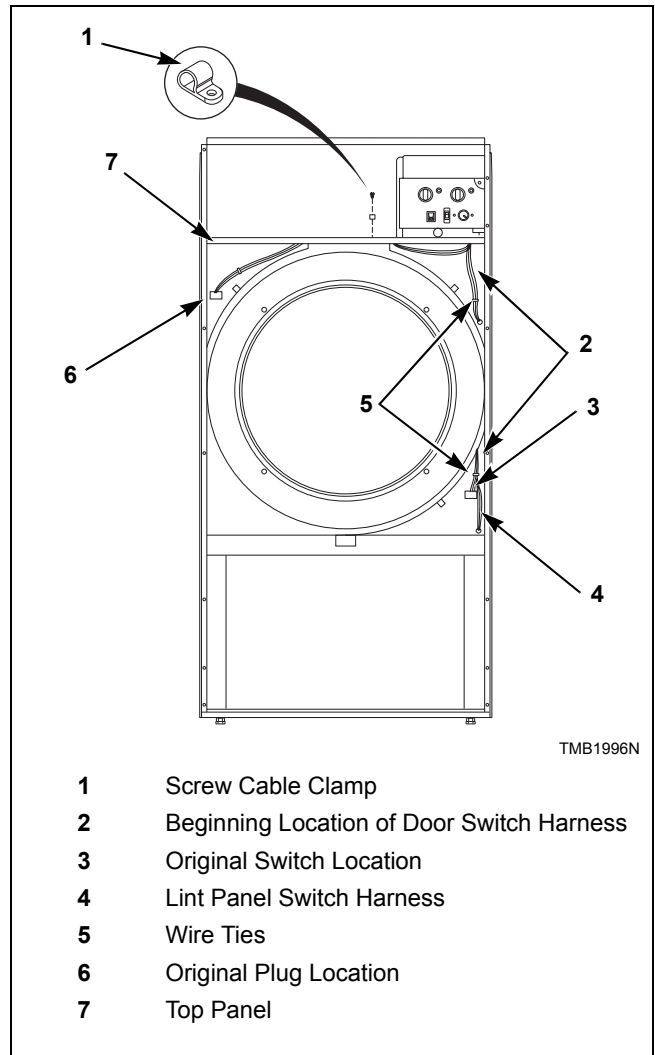

Figure 8
7. Cut wire ties along right side of machine to remove door switch harness from lint panel switch harness bundle. Be careful not to damage harness wires. Refer to *Figure 8*.
8. Reroute door switch harness up through top panel, along underside of front flange, through screw cable clamp, back down through top panel and into upper left quadrant of cylinder enclosure. Refer to *Figure 8*.